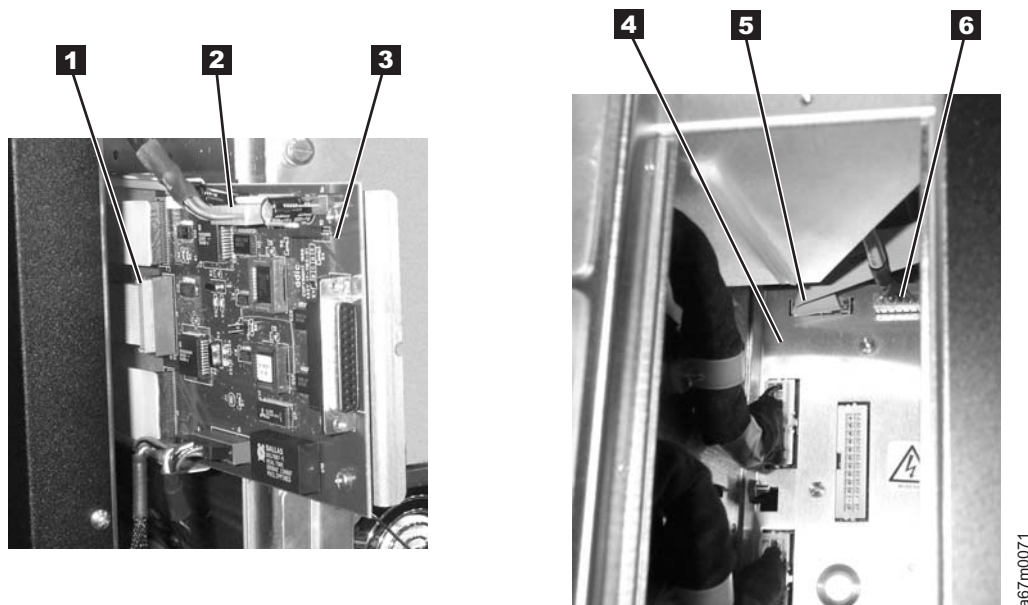

Figure 8-22. Main to Power Distribution Cables Removal and Replacement
5. Disconnect the failing cable (either Power **6** or Signal **5** Interface) from the Power Distribution Board. (See Figure 8-22).
9. (See Figure 8-22), disconnect failing cable, (Power **2** or Signal **1**), from Main Controller Board.